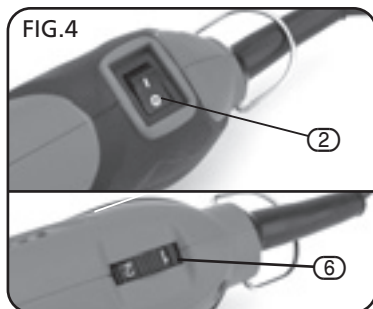

FIG.4
8.3 SWITCHING ON AND OFF - FIG. 4